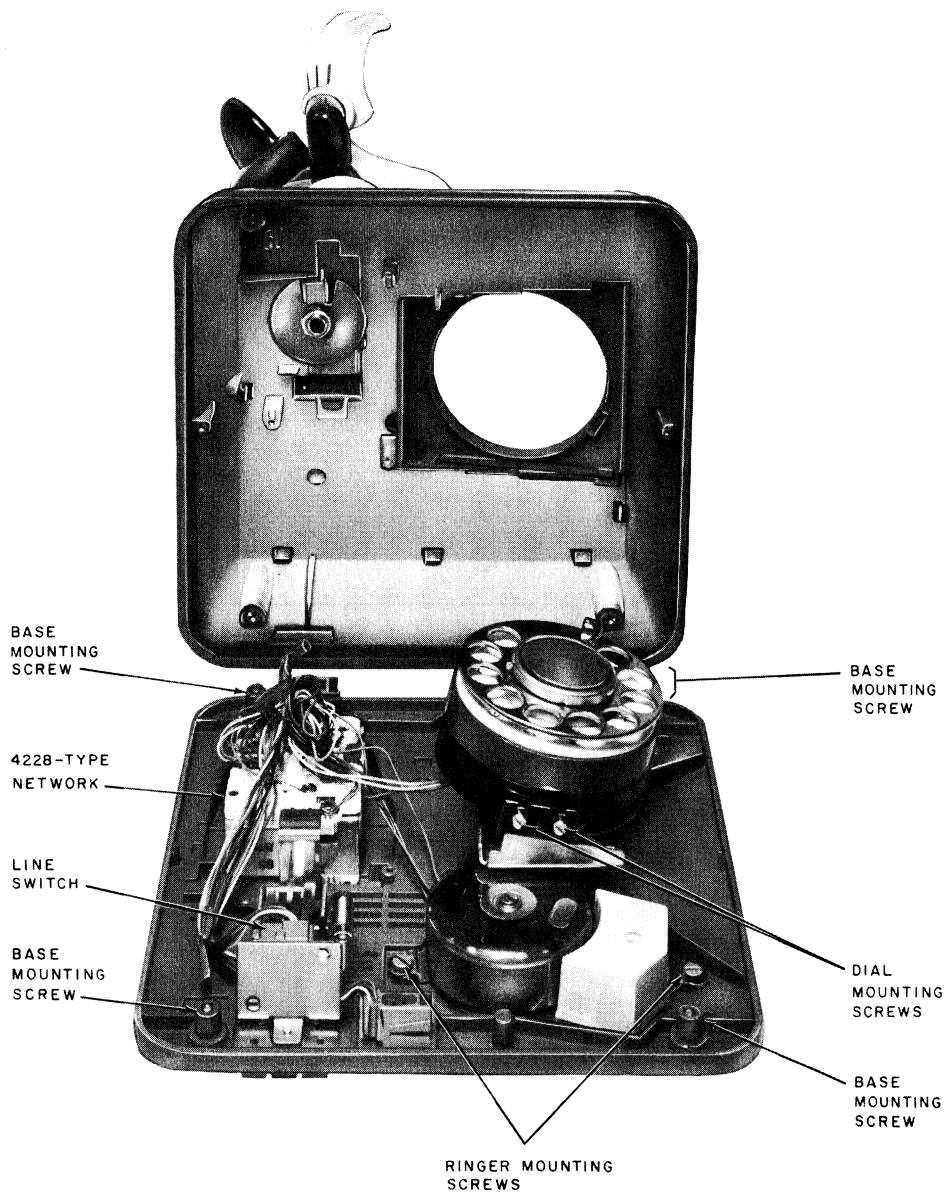

Fig. 2—881B109 Telephone Set With Base
- (1) Remove four base mounting screws from the bottom of the telephone set and remove bottom base (Fig. 2).
- (2) Pop off small black cover on bottom of base and remove and two outer line switch mounting screws from the base and remove line switch (Fig. 2).
- (3) Remove two network, two ringer, and four dial mounting screws from the base and remove network, ringer, and dial (Fig. 2).
- (4) Unscrew transmitter and receiver caps and remove T1 transmitter and U3 receiver units.